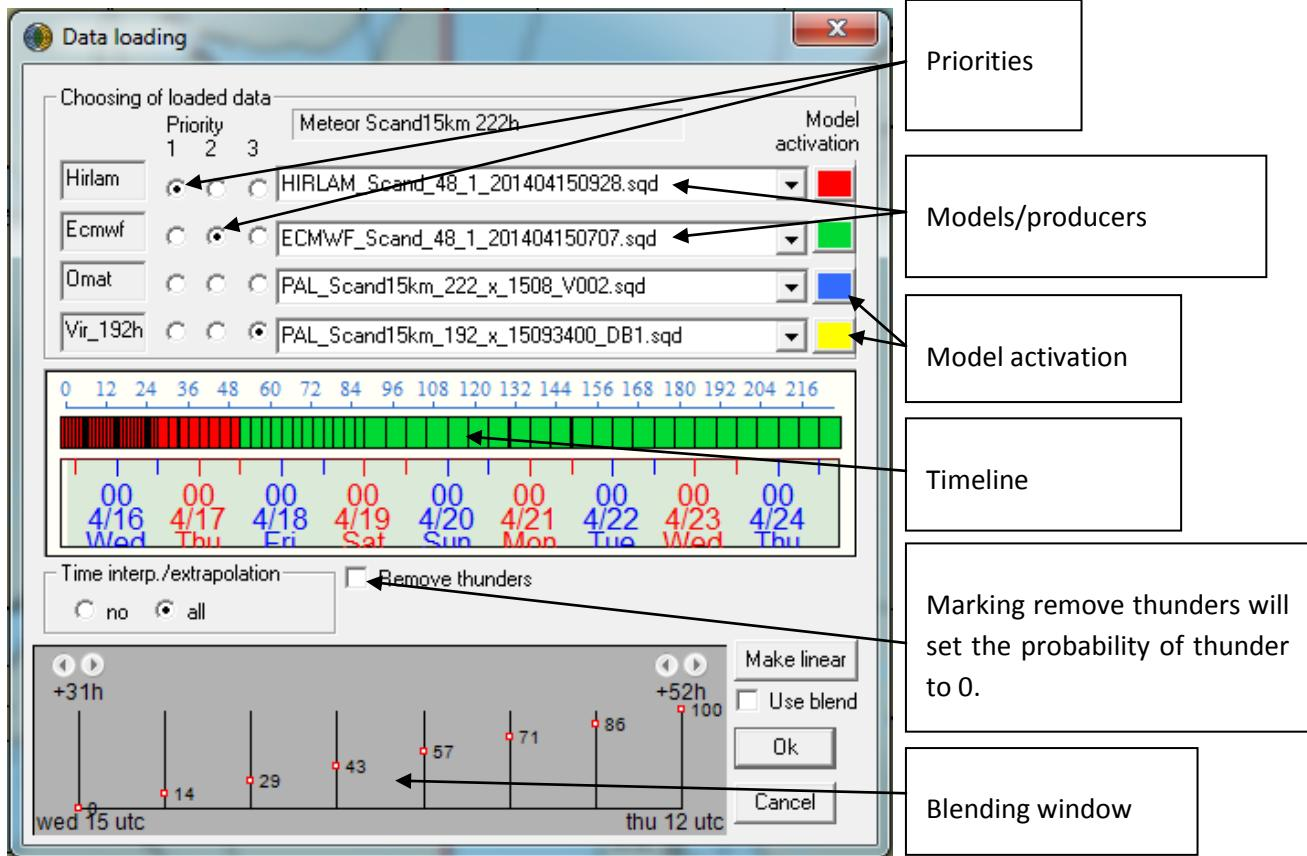
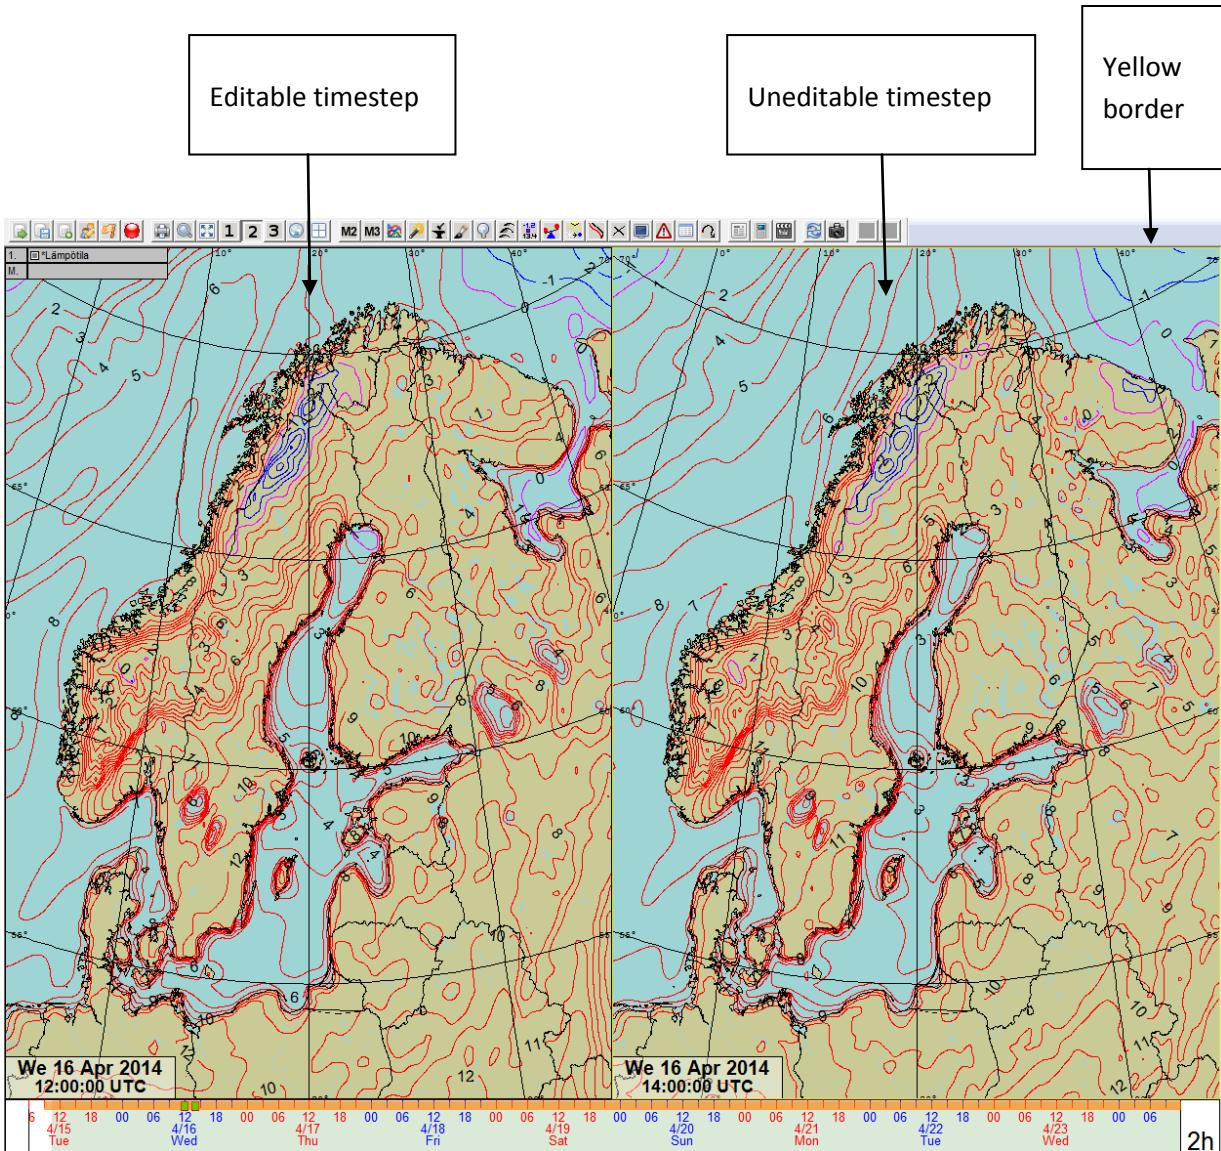

Figure 2 Data loading dialog. In this figure HIRLAM model would be loaded for the first approximately 50 hours and after that the data is ECMWF model.
Figure 5 Editable an uneditable timesteps in SmartMet
Every time when editing data there obviously need to be some data that is edited so the first thing that forecaster should do before editing is to select the data that is edited. Data is loaded from **data loading dialog** (Figure 2) which is opened by pressing the **load button** (Figure 1).
The length of editable data varies from country to another depending on the needs in each location. And so does the editable timesteps (i.e. the timesteps in the data that are edited). Quite common setup is that the nearest few to maybe 24 hours are edited with one hour interval and after that the data is edited with three hour interval or even six. The editable timesteps are visible in the data loading dialog (Figure 2) in the timeline (black lines between the forecast hour and the time line). Knowing what timesteps are editable is important because the data can't be edited in the timesteps that are uneditable and the tools that are explained further in this manual won't work in those timesteps. The easiest way of differentiating the the editable and uneditable timesteps when doing the editing is that there isn't a coulored outer border in editable timesteps and there is an yellow outer border in uneditable timesteps in the main map view of SmartMet (Figure 5). SmartMet will automatically interpolate the data between editable timesteps when changes are made.
To open the Mask dialog, click with the right mouse button on the letter M on the mapviews upper left corner (see Fig. 5). You can enable calculated masks by choosing the **Add** function of masks. In this version, possible calculated masks are **Latitude**, **Longitude** and **Elevation Angle**. Elevation Angle (EA) is the angle of altitude of the sun. If EA is over zero, it means that the sun has risen. If EA is below zero, it is currently night time. 90 degrees means that the sun is at its zenith. With latitude and longitude masks you can limit rectangular areas.